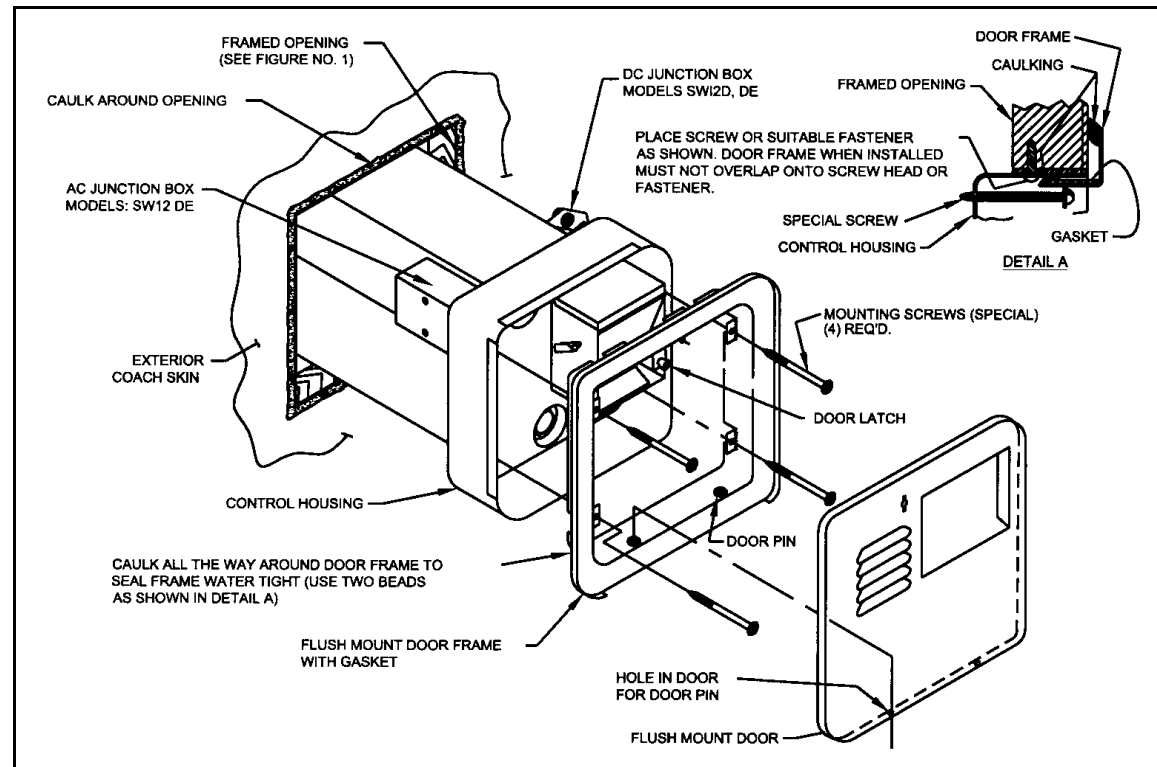

Figure 2
INSTALLATION USING FLUSH MOUNT FRAME & DOOR (See Figure 2 for illustration)
B. Refer to Figure 2 for location of D.C. junction box on models SW12D and SW12DE. Refer to Figure 5 for location of D.C. junction box on model SW12DEM.
B. Refer to Figure 2 for location of A.C. junction box on model SW12DE. Refer to Figure 5 for A.C. junction box on model SW12DEM.